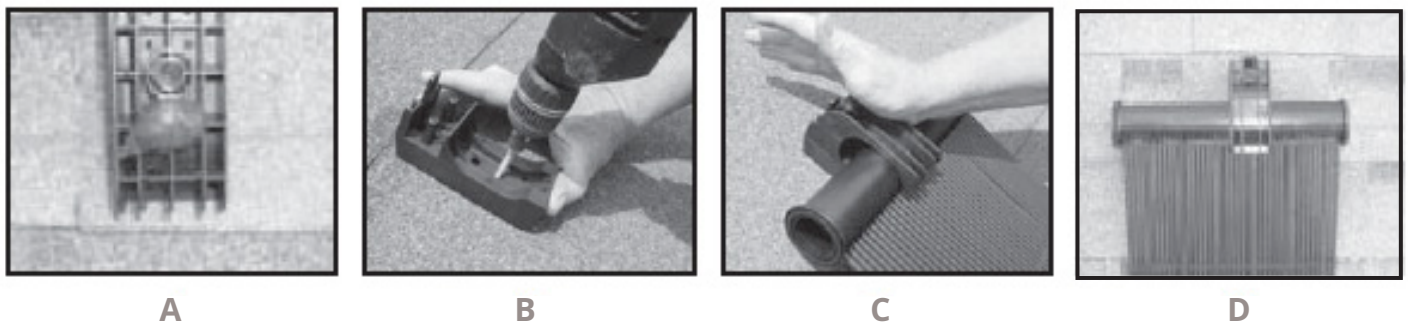

Fig. 5
- a. Apply ample sealant to both the bottom and top of the anchor hole on the bottom portion of the Gator Clamp. (Fig. 5-A). Position the bottom portion of the Gator Clamp perpendicular to the chalk line with the lower hole being placed right on the chalk line. Anchor the Gator Clamp to the roof through the lower hole using a 1/4" lag bolt. The length of the lag bolt used is based on how much embedment into the truss is required. Typically, this is 2" of embedment but the engineering plans will specify this.
- c. To ensure proper spacing between the upper and lower mounting points, hang the top manifolds of the collectors in the bottom portion of the Gator Clamps attached to the roof as you go. Once again, be sure Gator Clamps are at least 2" away from each ridge along the header. (Fig. 5-D)
- d. Once all Gator Clamps are properly anchored to the roof, and all the collectors are hung in place, connect the top manifolds of each collector using PPCs. Snap the top portion of each Gator Clamp over the collector manifold onto the bottom portion of each gator clamp by pushing down firmly. (Fig. 5-C)